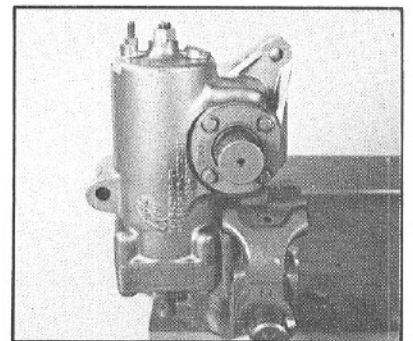
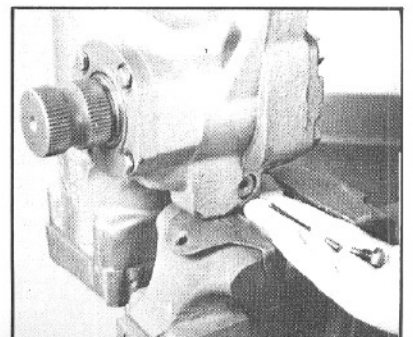

Figure 149
Figure 150
47. If your gear is equipped with the automatic bleed screw (20B), position the steering gear so that the cylinder bore axis is vertical and the input shaft is pointing down (FIG. 149). Then, install the spring (20D), the special pin (20C), and the automatic bleed screw (20B) into the housing (FIG. 150). Torque the screw to 16-20 ft. lbs.
WARNING: DO NOT LOOSEN OR REMOVE THE AUTOMATIC BLEED SCREW (20B) (SEE FIG. 149) WHEN THE STEERING GEAR IS MOUNTED ON THE VEHICLE. IF IT IS LOOSENED OR REMOVED, THERE MAY BE A LOSS OF POWER STEERING ASSIST IN ONE DIRECTION OF TURN.